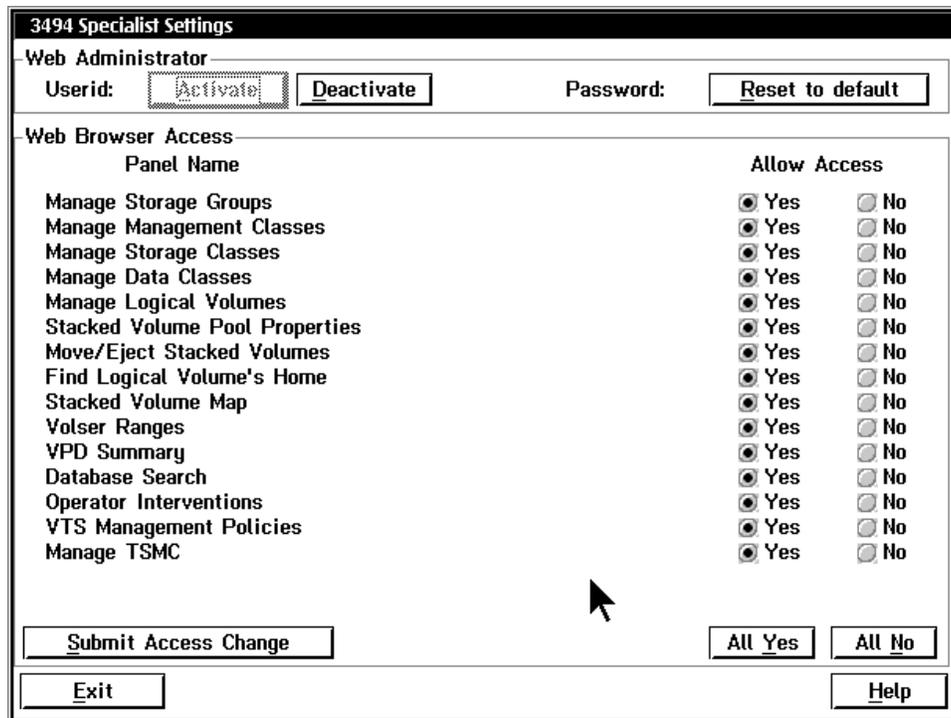

Figure 47. 3494 ATL or 3953 Specialist Settings. The text on your screen might differ with various levels of code or with different machine model numbers.
9. Either click **All Yes** or select **Yes** for each function you want to manage by using the 3494 or 3953 Specialist. Ensure that "Manage TSSC" is set to "Yes" to manage the TSSC configuration via the 3494 or 3953 Specialist. Figure 47 appears. Ask the customer administrator for any settings that need to be changed on this screen from Yes to No, and check the No box for those settings.